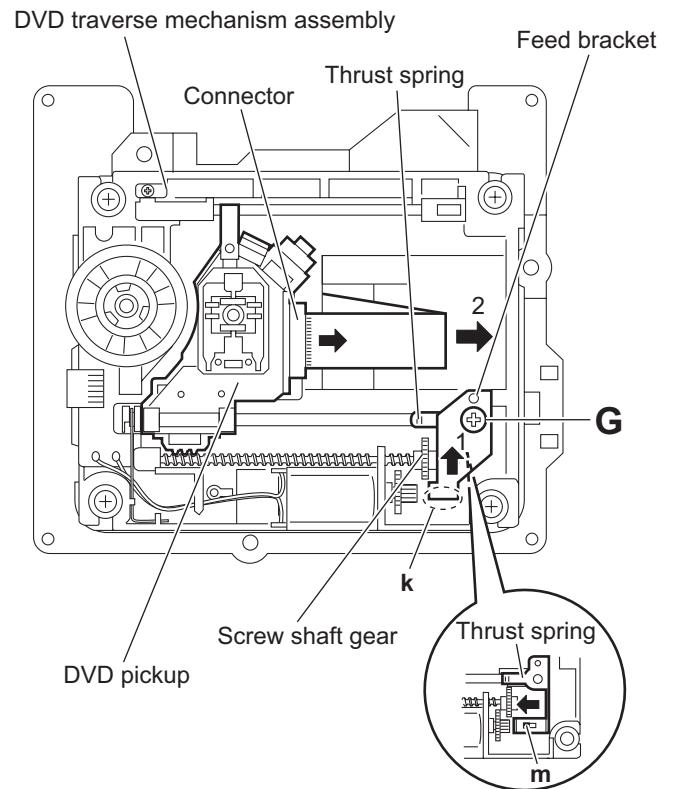

Fig.12
3.2.7 Removing the DVD pickup (See Figs.12 to 14)
- (1) From the top side of the DVD traverse mechanism assembly, release the lock of the connector on the DVD pickup and disconnect the card wire in the direction of the arrow. (See Fig.12.)
- (2) Turn the screw shaft gear in the direction of the arrow 1 to move the DVD pickup in the direction of the arrow 2. (See Fig.12.)
- (3) Remove the screw **G** attaching the feed bracket and remove the feed bracket from the sections **k**. (See Fig.12.)
- (4) Release the claw **m** of the thrust spring in the direction of the arrow and remove the thrust spring. (See Fig.12.)
3.2.8 Attaching the DVD pickup (See Figs.12 to 14)
- (3) Attach the thrust spring and feed bracket with the screw **G**. (See Fig.12.)